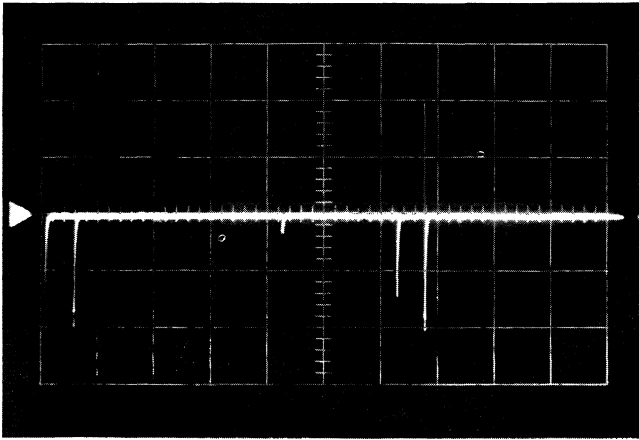

Fig. 9-11. Ring Step Pulse
7. Turn the ring control switch to hold except for figure 9-11, input to ring.